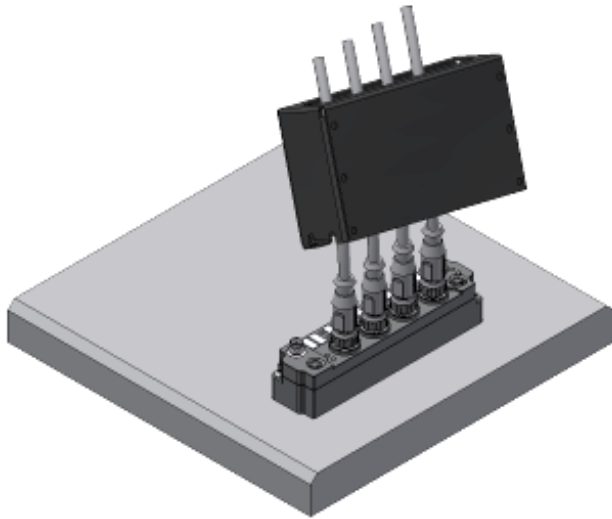

Fig. 7: BG2000 - fixing the cables
- Set all check marks and set *Override* to 100 (see Fig. 7). The axis can then be moved.